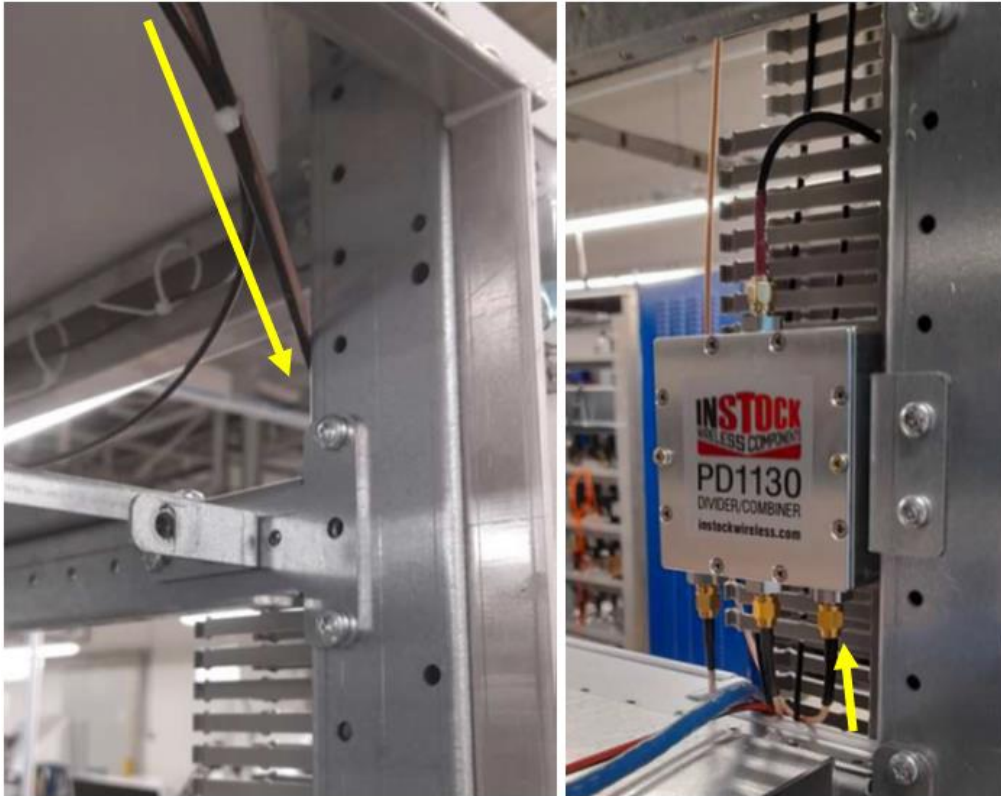

Figure 37. Rear Apollo antenna cable routing
Step 12 Route it in the system according to 36 and **figure 37**.